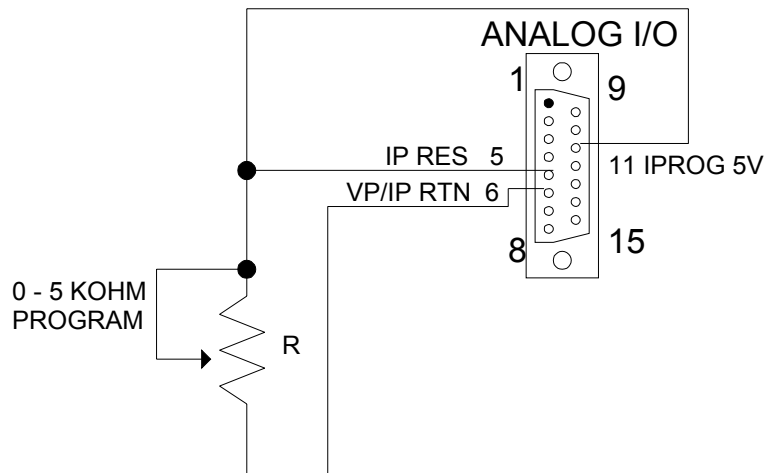

Figure 5-5: Remote Current Programming Using Resistance
- External Current Programming Using Resistance. The resistance coefficient for remote current programming is 5k ohms/100% rated output with respect to pin 6 (ISO VP/IP RTN). The programming current from PIN 5 (IP RES) is factory set for 1 milliamp. This yields a coefficient of 1.0% of rated output current for each 50 ohms. If multiple switches or relays are used to program different levels, make-before-break contacts are recommended. . See Figure 5-5 for connection requirements.